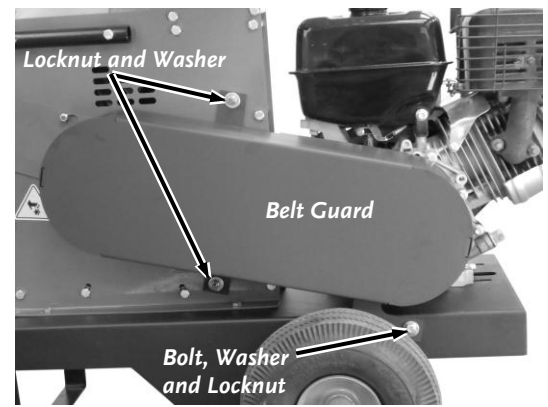

Figure 23
1. Remove the Bolt, Washer and Locknut from the lower Belt Guard to Frame mounting (**Figure 23**).